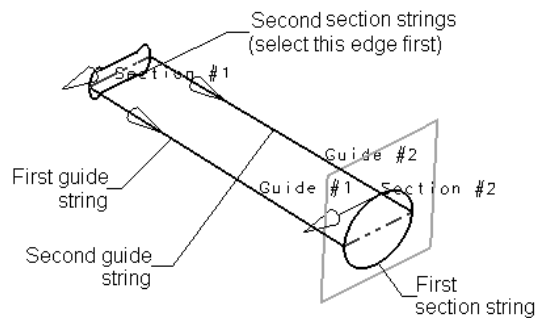

Figure 11-114 Entities to be selected for creating the studio surface
8. Select the first section string, as shown in Figure 11-114. Press the middle mouse button; you are prompted to select the section again.
9. Select all elements from the second section string. Make sure that the arrows in both the section strings point in the same direction, as shown in Figure 11-114. Choose the **Guide (Cross) Curves** button; you are prompted to select the guide string.
10. Select the first guide curve, as shown in Figure 11-114, and press the middle mouse button; you are prompted to select the guide string again.
11. Select the second guide curve, as shown in Figure 11-114. Choose the **Apply** button and then the **Cancel** button to create the surface.